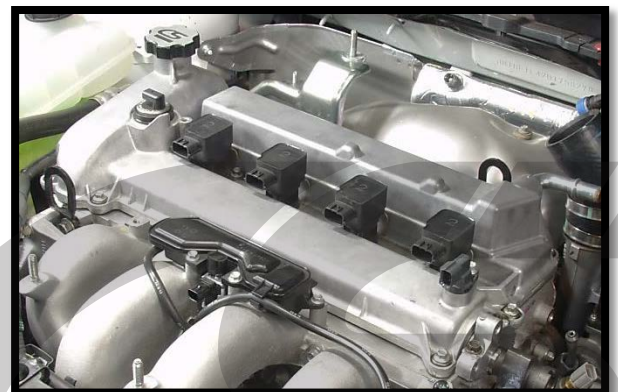

Figure 7d
- f) Replace the valve cover (Figure 7d). Tighten down the fourteen (14) bolts starting from the center bolts and working your way outward to 8-11.5 nm (71-92 in-lbs).
- h) Replace the four (4) spark plug coils (Figure 7d).